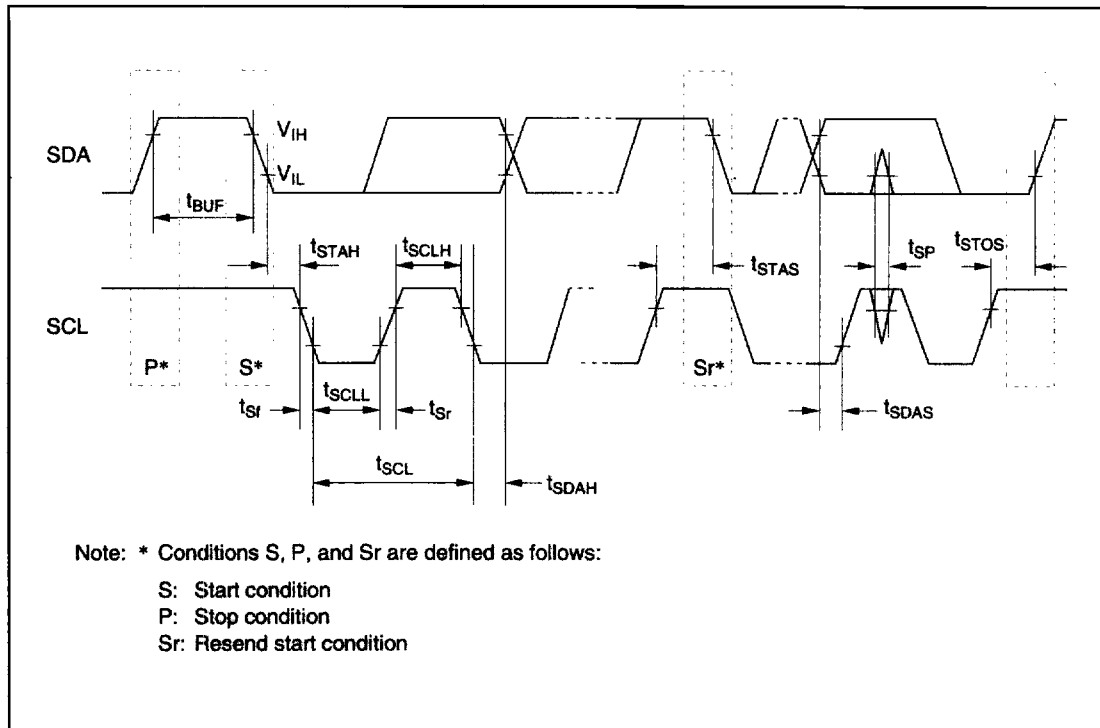

Figure 19-21 I2C Bus Interface Input/Output Timing
19.3.9 I 2 C Bus Interface Timing (Option)	Figure 19-21